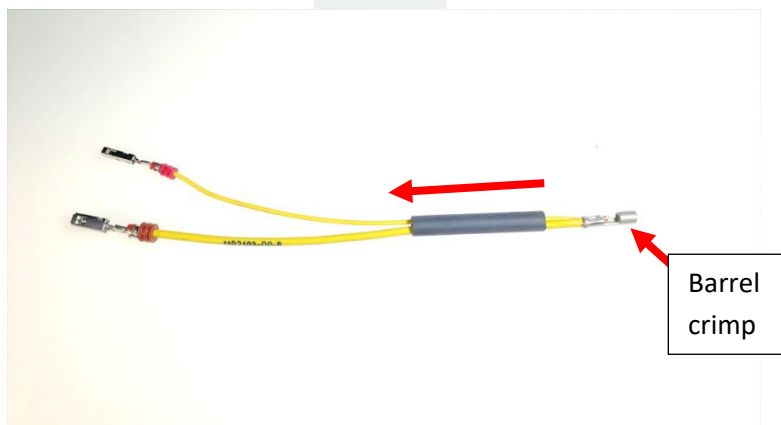

Figure 23
21. Slide the shrink tubing over both wires of the jumper, to the middle of the jumper (Figure 23).